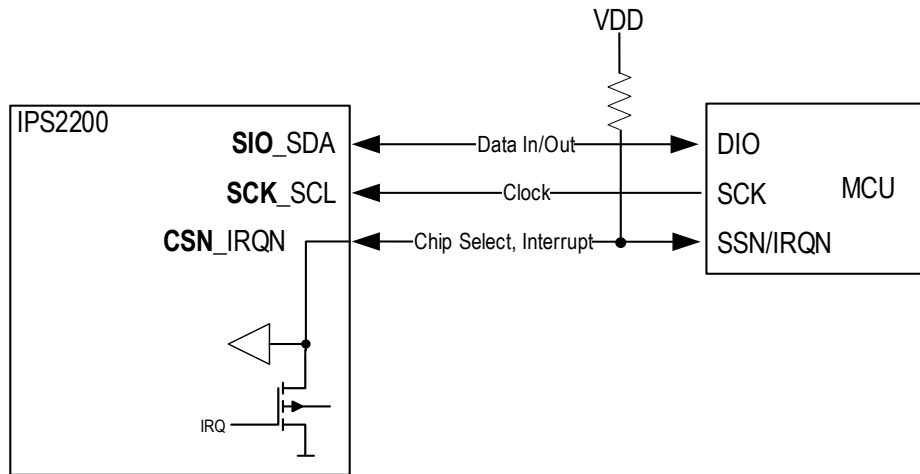

Figure 15. Half Duplex 3-3 Wire SPI Interface with Interrupt
- In this state, when no data is transmitted, the MCU port (CSN_IRQN) switches to digital input and enables the pin as an active low interrupt output; see Figure 15.